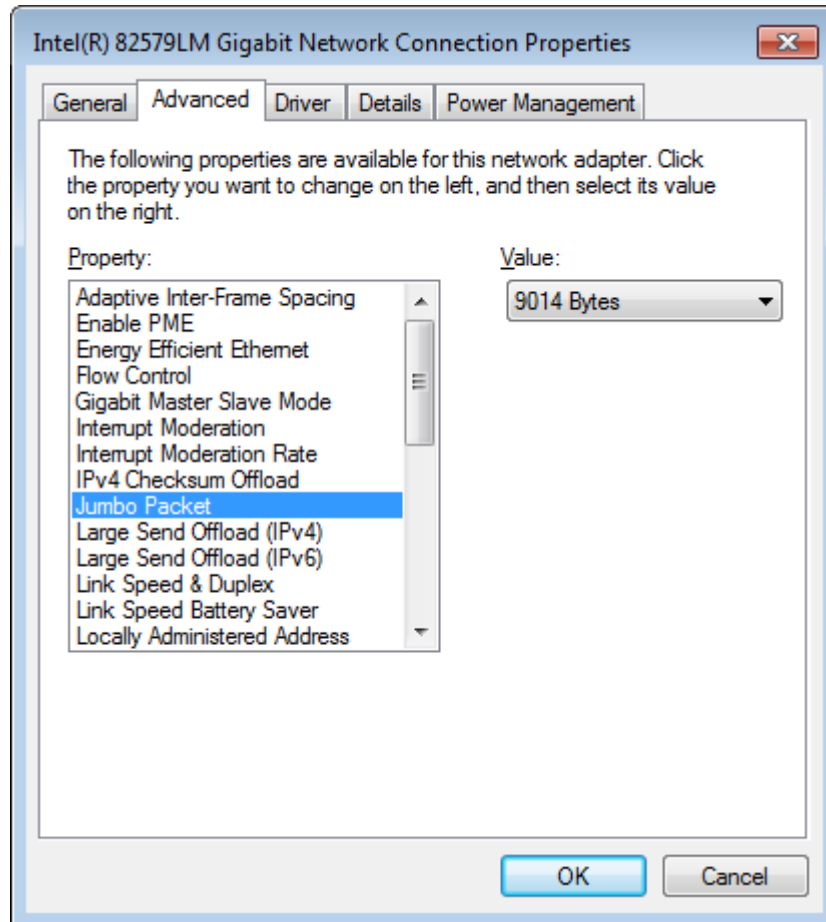

Figure 100: Network interface card - advanced driver settings - Jumbo Packets
4. The settings of the driver can be accessed by choosing the *Advanced* tab of the opened window. As shown in Figure 100, raise the value of the *Jumbo Packet* property to its maximum value.